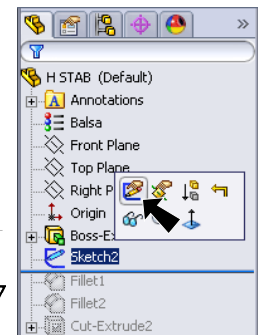

Fig. 44
Step 4. Click **Sketch2** in the Feature Manager and click **Edit Sketch**  on the Content menu, **Fig. 44**.